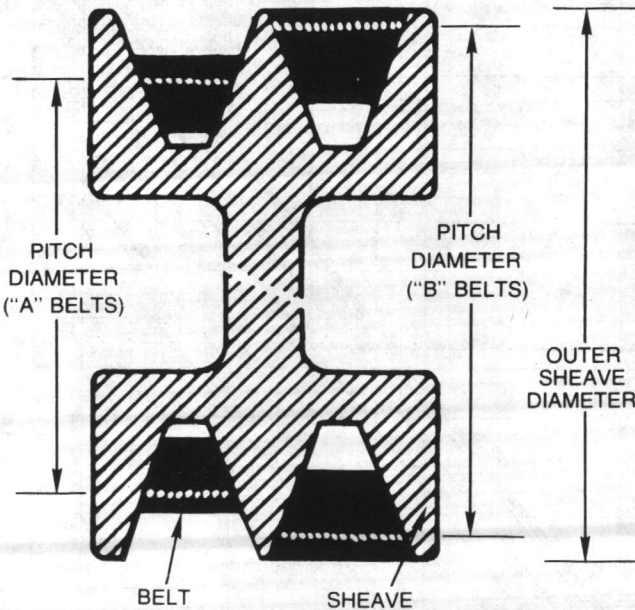

FIGURE 8 - Fan Sheave Pitch Diameter
3. Fan sheave pitch diameter (Figure 8 - found by measuring where the middle of the belt rides in the sheave)